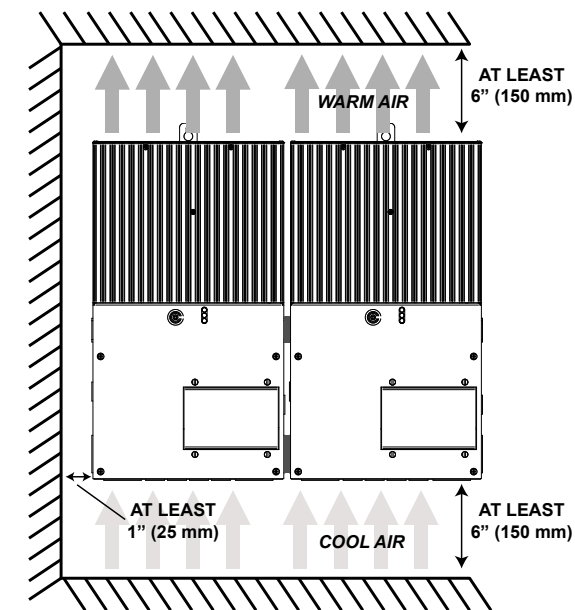

Figure 3-11. Required mounting clearance for air flow
2. Place the TriStar MPPT 600V on a vertical surface protected from direct sun, high temperatures, and water. The TriStar MPPT 600V requires at least 6" (150 mm) of clearance above and below and at least 1" (25 mm) between the controller and adjacent walls for proper air flow as shown in figure 3-11 below.